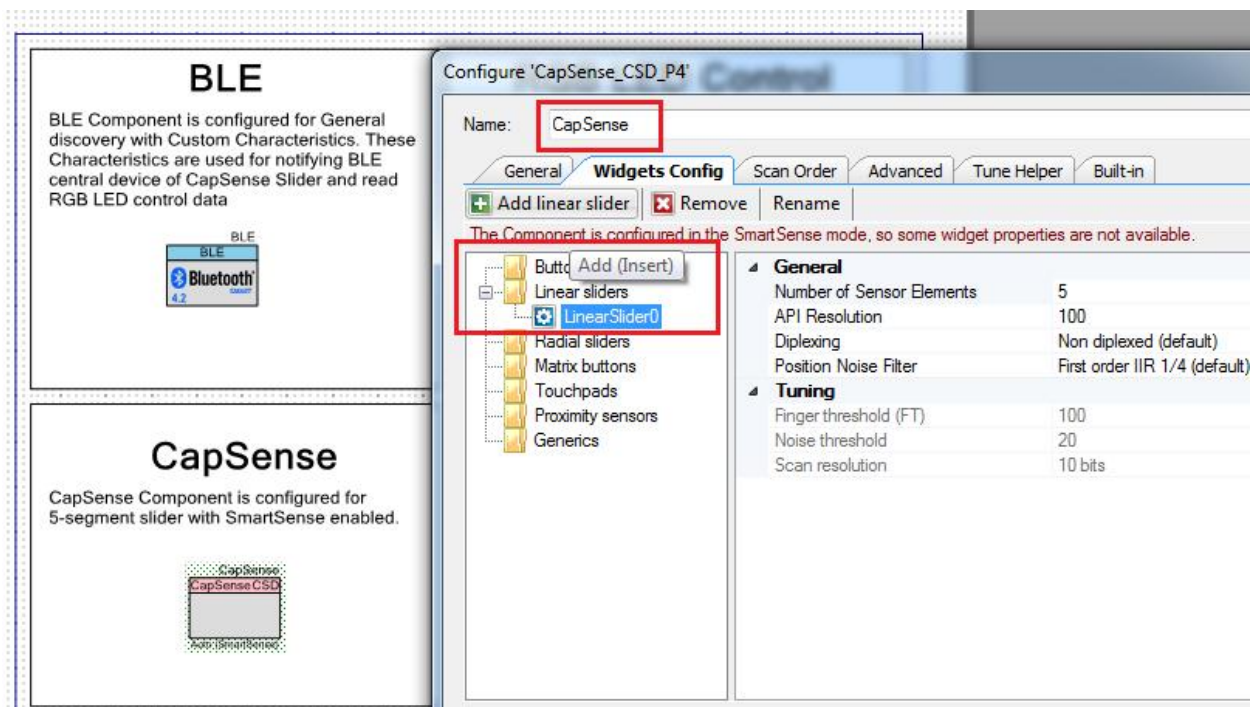

Figure 12: CapSense Component Configuration - Adding a Linear Slider
3.5.2 On the **Widgets Config** tab, add a linear slider by clicking Linear sliders and then the Add linear slider button, as shown in Figure 12.